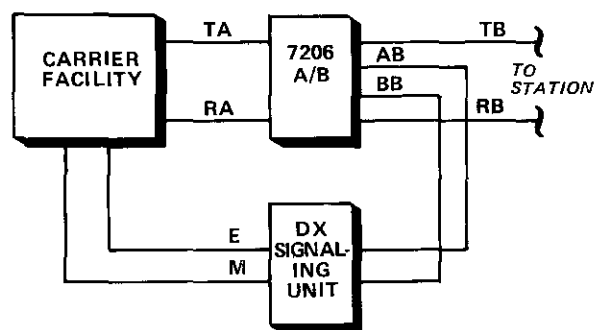
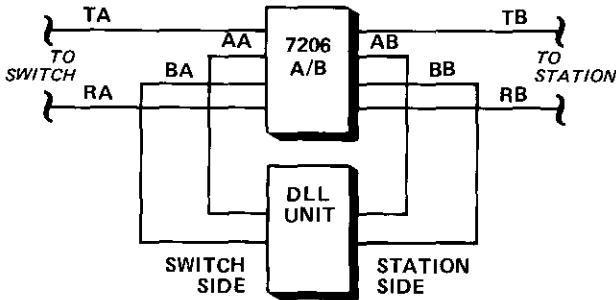
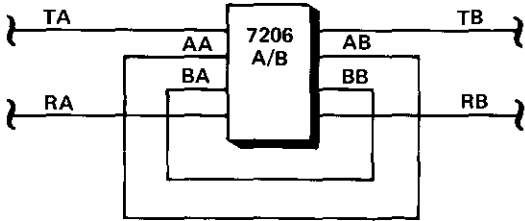

figure 2. A-and-B-lead routing and amplifier orientation for DX-signaling applications
figure 3. A-and-B-lead routing and amplifier orientation when 7206A/B is used with associated DLL
figure 4. Through signaling configuration
2.07 Figures 2 through 4 show wiring options and amplifier orientation for various signaling modes. In figure 2, A-and-B-lead routing and amplifier orientation for applications using extended range E&M-lead (DX) signaling is shown. In DX-signaling applications, orient the 7206A or 7206B module so that inductor L1 (i.e., the B side of the module) faces the dc-signaling side, and route the module's A and B leads as shown in figure 2. Figure 3
shows A and B-lead routing in applications where the 7206A or 7206B module is used with an associated dial long line (DLL) unit. In these applications, the B side of the module should face the station equipment. In figure 4, the through-signaling configuration is shown. In all station applications, where a DLL is not used in conjunction with the 7206A or 7206B however, orient the A-side of the 7206A or 7206B toward the station end to permit use of the module's direction-detector sensitivity option (see paragraph 3.08).
3.05 A-and-B-lead derivation for various signaling modes is shown in figures 2 through 4 and described in paragraph 2.07. To summarize, in DX-signaling applications, orient the amplifier and route the A and B leads of the 7206A or 7206B as shown in figure 2. Figure 3 shows signaling-lead arrangements and amplifier orientation for applications where the 7206A or 7206B is used with a DLL. Figure 4 shows the through signaling configuration. In all station applications where a DLL is **not** used in conjunction with the 7206A or 7206B, the A side of the 7206A or 7206B faces the station and the B side faces the switching equipment.